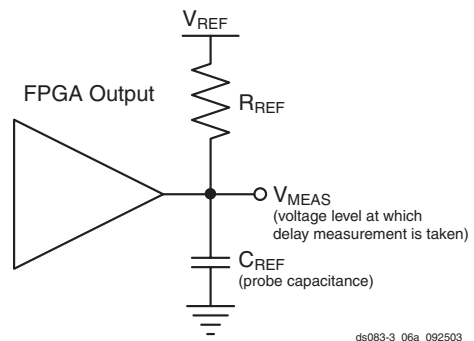

Figure 51: Generalized Test Setup
- Note that this is an input voltage reference that bears no relation to the  $V_{REF} / V_{MEAS}$  parameters found in IBIS models and/or noted in Figure 51.
Output delays are measured using a Tektronix P6245 TDS500/600 probe (< 1 pf) across approximately 4" of FR4 microstrip trace. Standard termination was used for all testing. (See Virtex-II Platform FPGA User Guide for details.) The propagation delay of the 4" trace is characterized separately and subtracted from the final measurement, and is therefore not included in the generalized test setup shown in Figure 51.